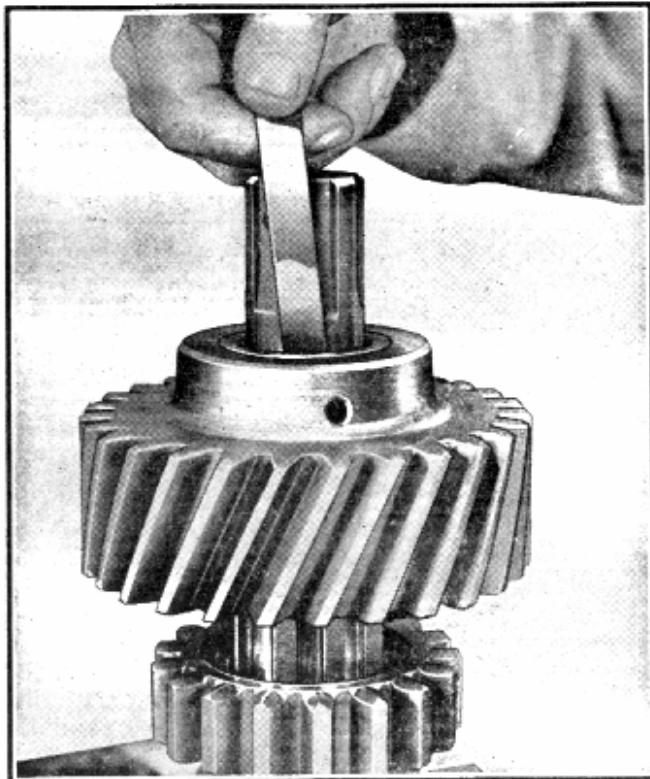

Fig. 23—Checking Clearance of Main Drive Gear Bushing
5. Check the clearance between the main drive gear bushing (77) and the main shaft (86) as shown in Fig. 23. If this clearance is not within the limits of .001" to .007" a new bushing should be installed in the main drive gear.
7. Install the front thrust washer (79) over the shaft (86) and against the locating snap ring (80). Install the main drive gear (78) and